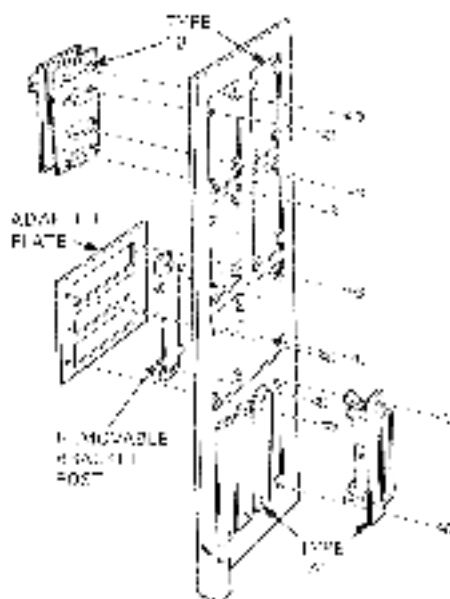

Figure 10-21 Filter Connector Removal
7. Remove the screws that hold the filter connector to the rear I/O panel (Figure 10.21).